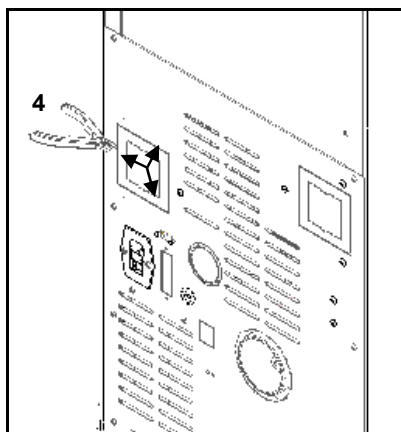

Figure 126 – Removing the rear lid of the free-standing fire unit
d) Remove the rear lid from the unit's chassis Figure 126, by cutting the identified areas using a pair of pliers (4).